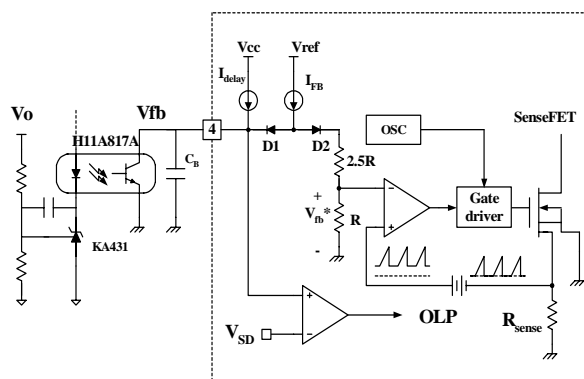

Figure 11. Pulse width modulation (PWM) circuit
3. Feedback Control : FSCQ1265RT employs current mode control, as shown in Figure 11. An opto-coupler (such as the H11A817A) and shunt regulator (such as the KA431) are typically used to implement the feedback network. Comparing the feedback voltage with the voltage across the R_{sense} resistor plus an offset voltage makes it possible to control the switching duty cycle. When the reference pin voltage of the KA431 exceeds the internal reference voltage of 2.5V, the H11A817A LED current increases, thus pulling down the feedback voltage and reducing the duty cycle. This event typically happens when the input voltage is increased or the output load is decreased.
3.1 Pulse-by-pulse current limit: Because current mode control is employed, the peak current through the Sense FET is limited by the inverting input of PWM comparator (V_{fb}^*) as shown in Figure 11. The feedback current (I_{FB}) and internal resistors are designed so that the maximum cathode voltage of diode D2 is about 2.8V, which occurs when all I_{FB} flows through the internal resistors. Since D1 is blocked when the feedback voltage (V_{fb}) exceeds 2.8V, the maximum voltage of the cathode of D2 is clamped at this voltage, thus clamping V_{fb}^* . Therefore, the peak value of the current through the Sense FET is limited.